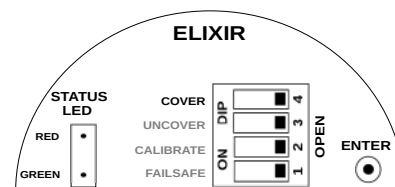

Figure 20: Saving Cover Delay
4. Cover delay is entered, but not saved. To save and test the cover delay, set the COVER switch back to OPEN position as shown in Figure 20.